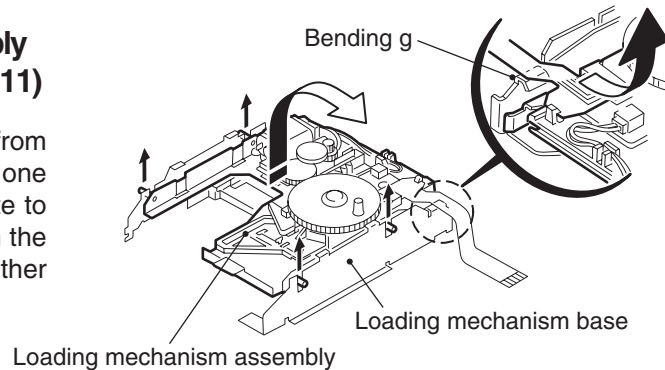

Fig.11
■Removing the loading mechanism assembly (See Fig.11)